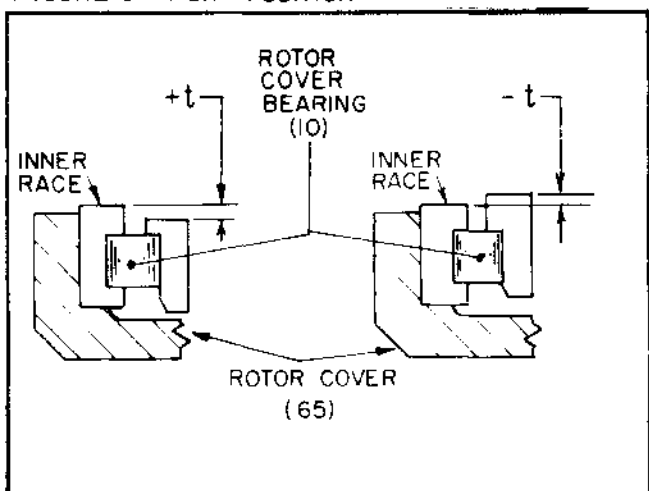
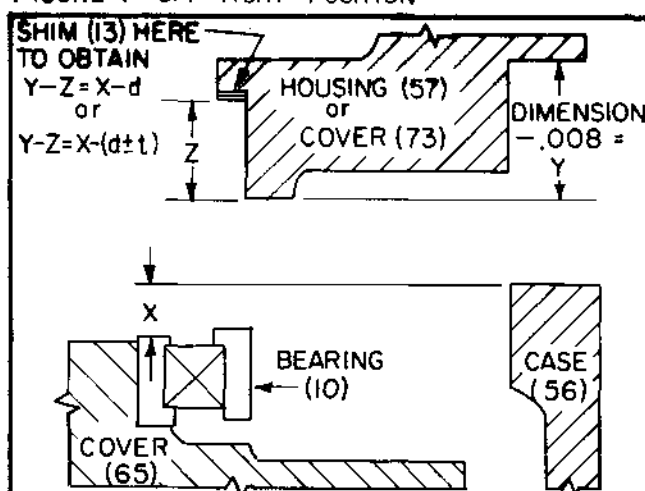

FIGURE 8 INITIAL ROLLER BRG. RACE PROJECTION
FIGURE 9 ROTOR END PLAY SHIMMING.
4. ROTOR COVER If new rotor cover bearing (10) is used, install on rotor cover (65) so thrust side of outer race faces open case end. (Size 60 units, measure race protrusion, see figure 8 and record + "t" dimension.) Insert coupling ring (21), coupling rollers (20) and coupling flange (19). Force cover (65) down uniformly with screws to hold spacers (17) and thrust rings (18) firmly in place (on size 60s, match balance "o" marks on cover with rotor). Clearance between rotor and cover should be approximately .06". Secure screws with new soft iron locking wire (106). To check for correct rotor end play at "d", (see figure 9) lay a straight edge across the open end of case (56) and measure distance from